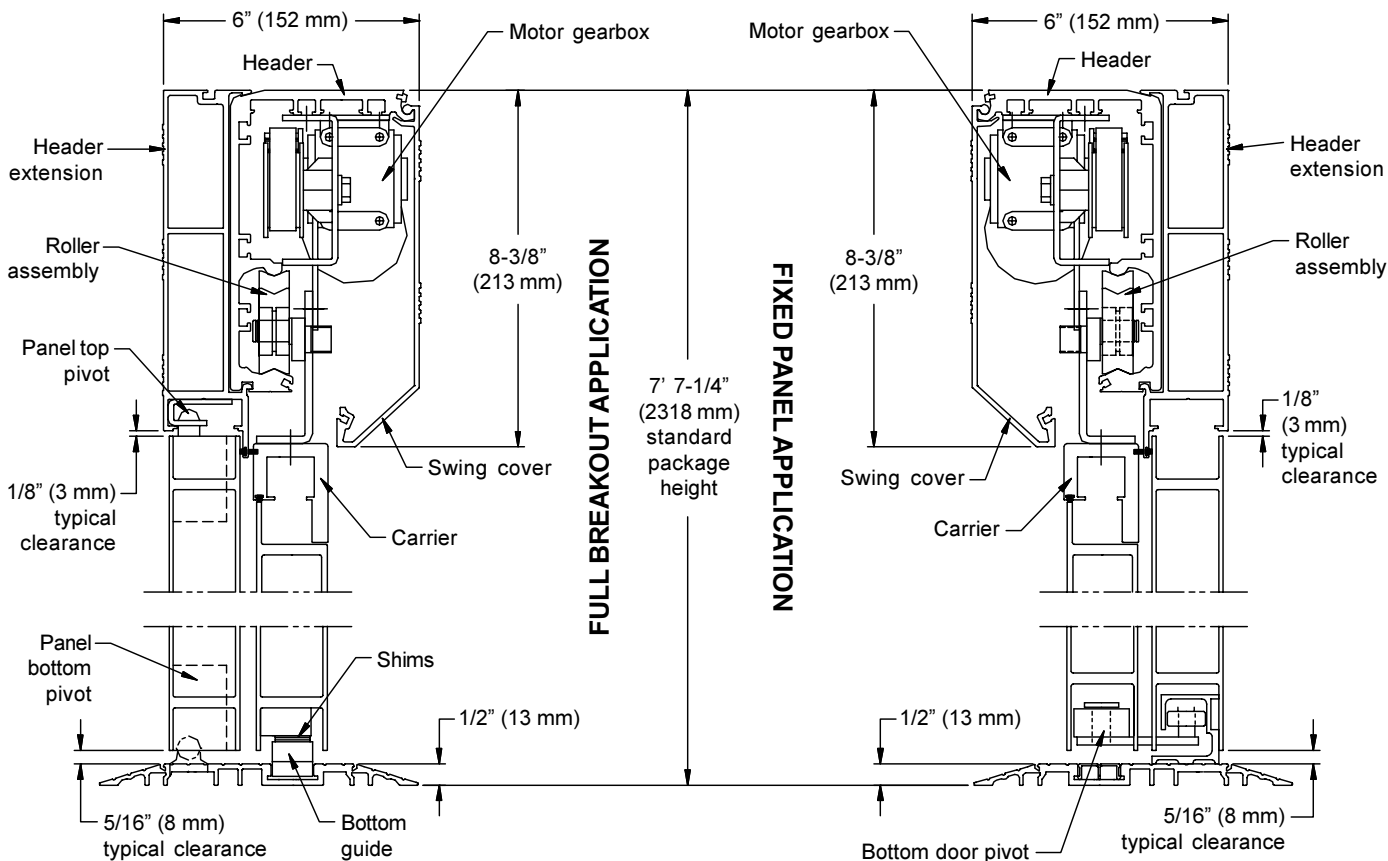

Figure 9. Section View through Header, Door, and Panel
2. Refer to **Figure 9** for a detailed section view of a typical Series 96000 Slide Full Breakout or Fixed Panel application.